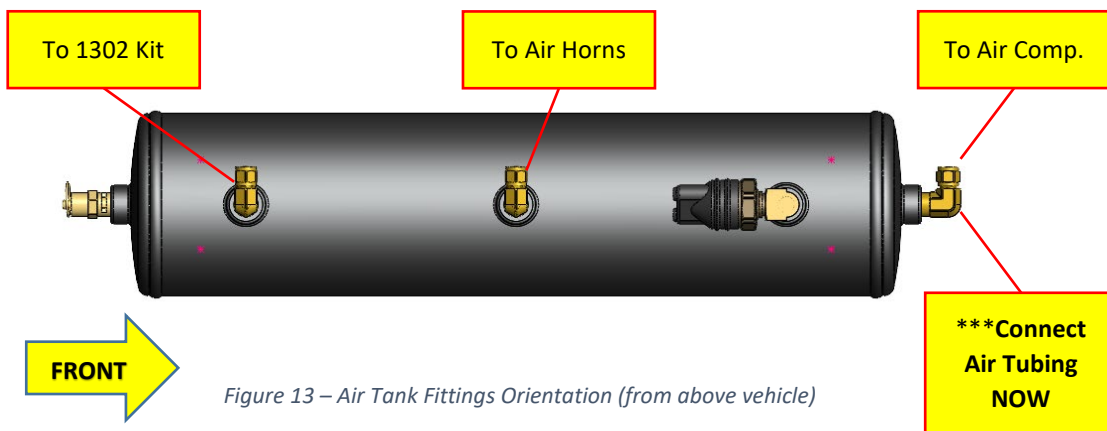

Figure 13 – Air Tank Fittings Orientation (from above vehicle)
- 8.10.1. Route 1/4" Air Tubing, which is connected to front of Air Tank from bench assembly step (Figure 13) across back of firewall, or above chassis, as desired. There should be at least 12 inches of excess tubing sticking out of Driver's side to manipulate and connect to Air Compressor. Once route is selected, secure Air Tubing in place.